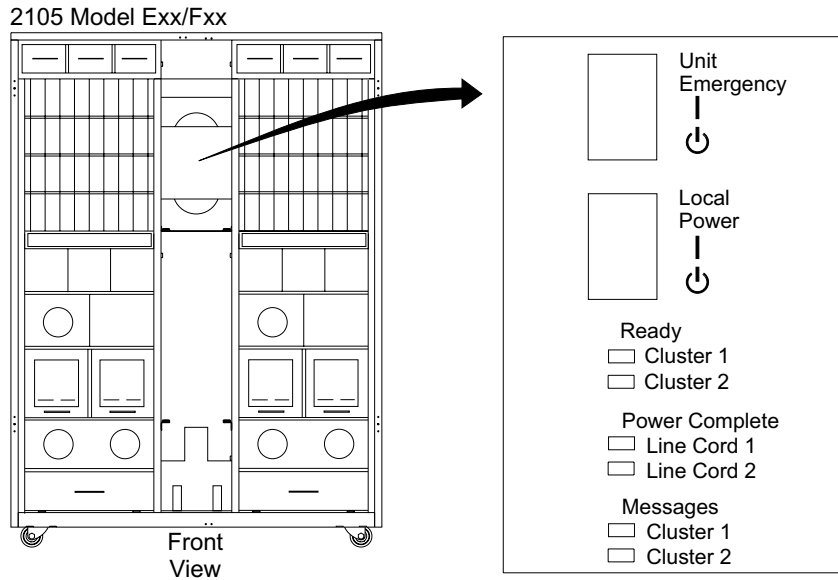

Figure 97. 2105 Model Exx/Fxx Operator Panel Locations (S008810m)
- b. Check the Power Complete, Line Cord 1 and 2 indicators in Figure 97, on the front of the 2105 Model Exx/Fxx.
- If either indicator is off or blinking, press the Local Power switch in Figure 97 on page 194, to On (up) for two seconds then release it. Go to step 6c.
- b. Check the Power Complete, Line Cord 1 and 2 indicators in Figure 97 on page 194, on the front of the 2105 Model Exx/Fxx.
- If either indicator is off or blinking, press the Local Power switch in Figure 97 on page 194, to On (up) for two seconds then release it. Go to step 7c.